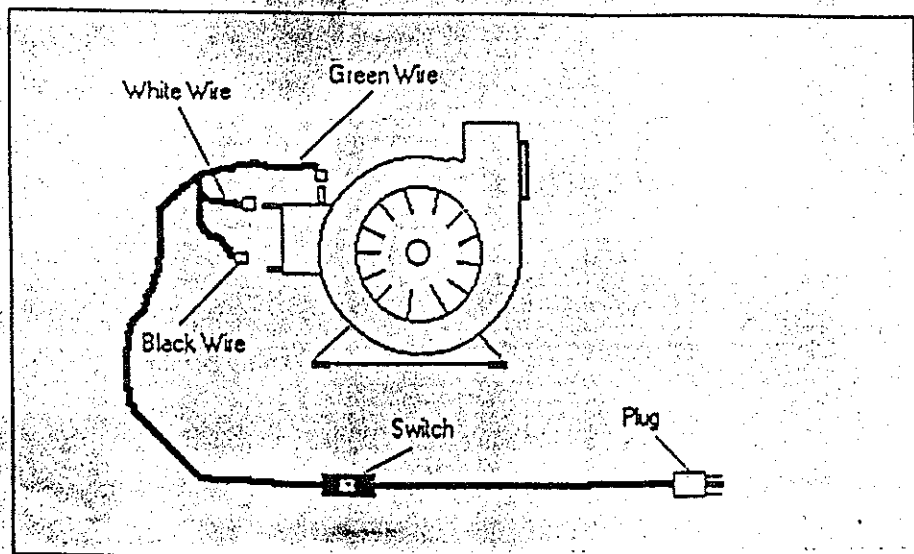

Figure 3 Blower Wiring Guide
3. Guide the wire assembly through the bottom hole on the side of the fireplace leaving the plug on the outside of the unit (It is necessary to remove the cover on the outside of the fireplace to gain access to the cord hole). Connect the Green, Black and White Wires to the appropriate terminals on the blower system as shown in Figure 3.